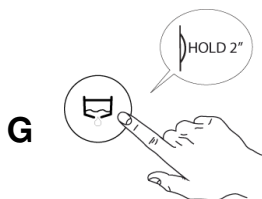

Fig.40
- 3- Hold button “G” drain water until it starts drain process. (Fig.40)